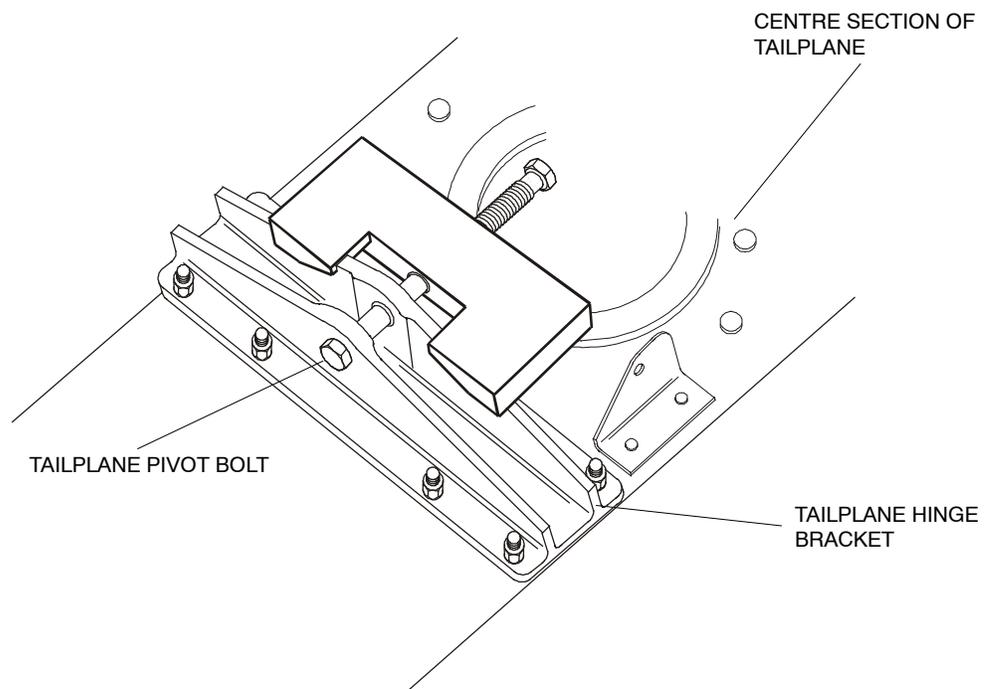

Figure 2 Tailplane Pivot Bolt Extractor Tool Installation
- (1) Support the tailplane.
- (2) Remove the cotter pin, washer and nut from the tailplane pivot bolt.
- (3) Screw the extractor bolt through the tool body until the tip of the bolt is flush with the surface of the tool body.
- (4) Fit the slotted sections of the tool body over the inboard flange of the tailplane hinge bracket and align the extractor bolt with the pivot bolt (Ref Figure 2).
- (5) Gradually screw in the extractor bolt so the hollow end passes over the threaded end of the pivot bolt. When the pivot bolt bottoms in the end of the extractor bolt, resistance will be felt as the pivot bolt is pushed through the bushes.
- (6) Once the extractor bolt is screwed fully home, remove the pivot bolt.
- (7) If the tailplane is not to be removed, the extractor tool may be left in position to support the tailplane. Do not apply heavy loads to the tailplane while the extractor tool is supporting the tailplane. This will damage the tool and possibly the tailplane pivot bushes.